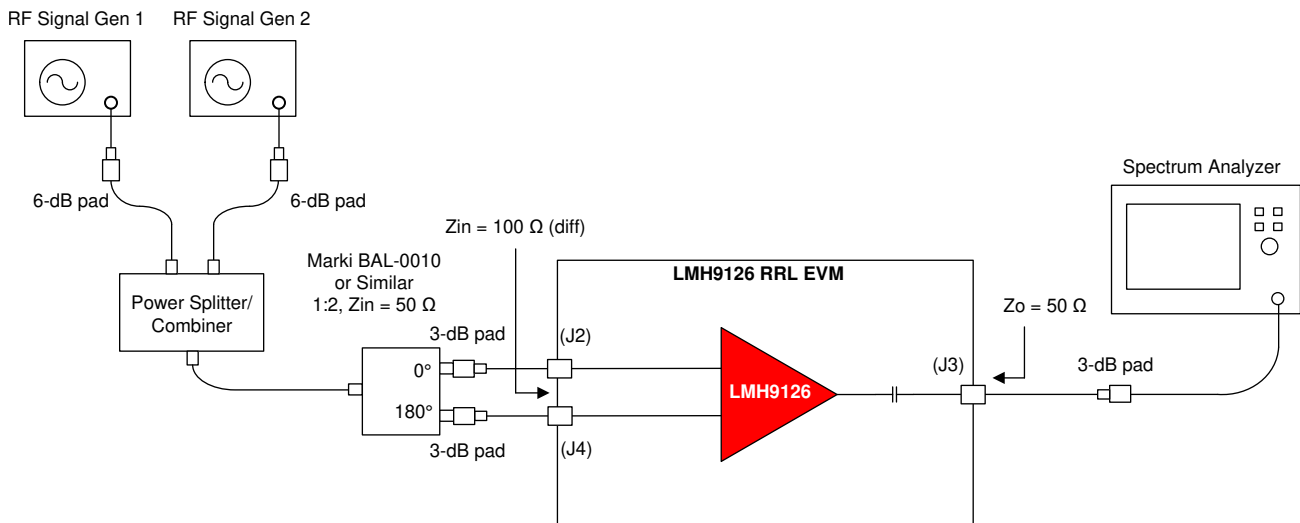

Figure 11. OIP3 Test Setup
1. As Figure 11 shows, combine two signal generator outputs using an in-phase power splitter / combiner. A 6-dB attenuator is recommended at the signal generator outputs to prevent the generators from coupling to each other and resulting in signal generator IMD3 spurs.